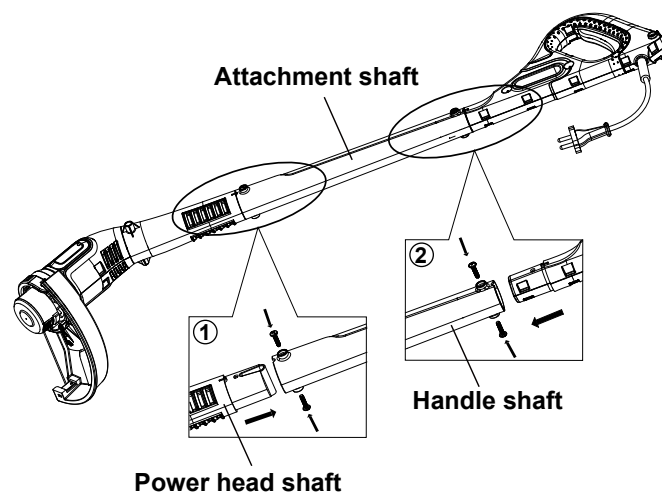

Fig. 2
4. Connect the attachment shaft to the handle shaft by the same way (Fig. 2).